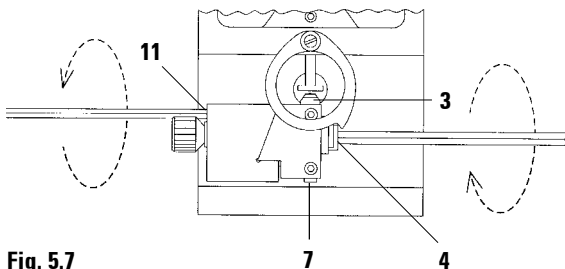

Fig. 5.7
6. Insert the size-5 Allen key into regulating screw (4) insert size-2.5 Allen key into regulating screw (11) (Fig. 5.7).
The arrows in Fig. 5.7 indicate clockwise sense of rotation.